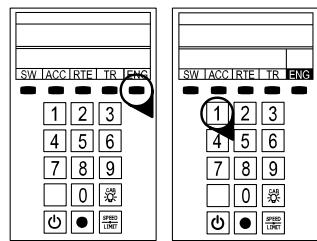

Figure 2. LEGACY engine selection
4. As illustrated in Figure 2, press ENG and 1 (or your selected ENG ID#) to address the locomotive with your LEGACY CAB-2 Remote Controller.